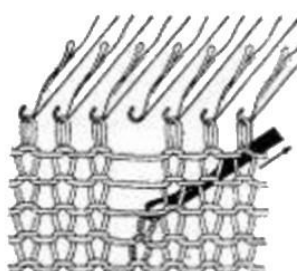

Fig.46 - d
- (c) Continue to pull the tool back until the strand is drawn through the loop forming a new loop. (Fig.46-d)